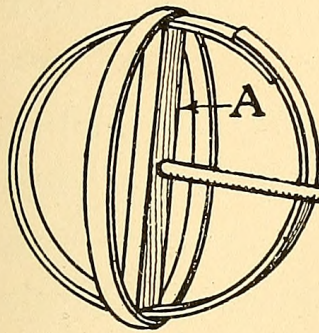
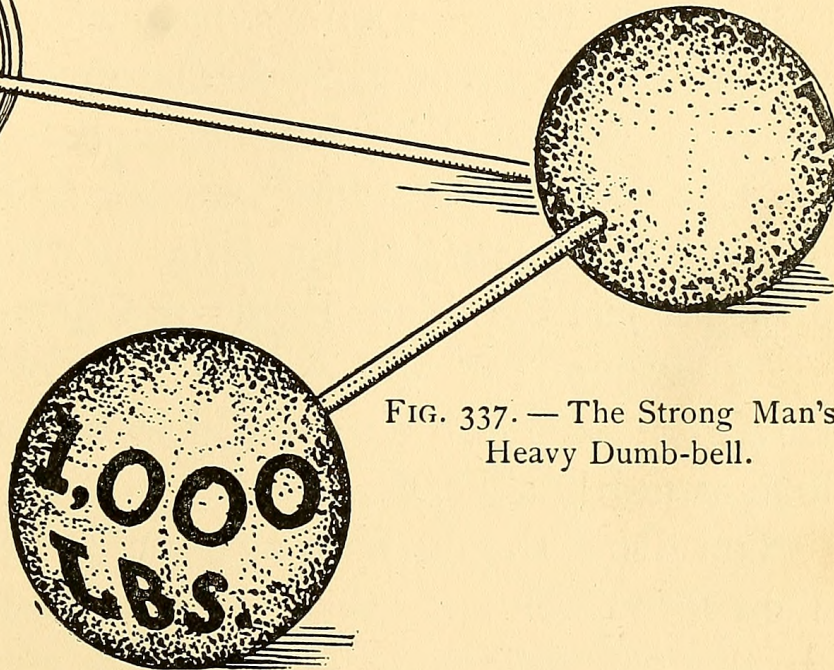

FIG. 338. — How the Ends are Constructed.
FIG. 337. — The Strong Man's Heavy Dumb-bell.
**Dumb-bell Lifting Feat** must not be overlooked. Make the 2000-lb. dumb-bell like that shown in Fig. 337, preparing each end out of two barrel-hoops crossed at right angles with the cross-piece *A* fastened in the center (Fig. 338). Make the handle out of a piece of curtain-pole or iron pipe; if the latter is used, it can be struck by the strong man to show the audience that it